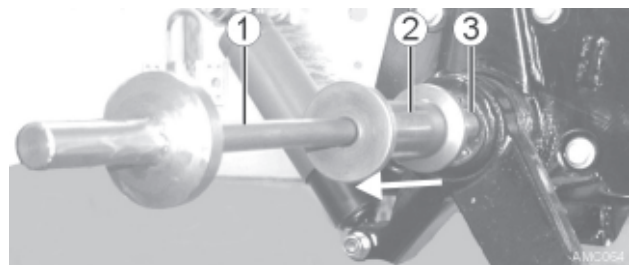

Fig. 19
10. Screw extraction tool (Fig 19 -1) into the torsion bar (Fig 19 - 3).
11. Knock impact bushing (Fig 19 -2) against the extraction tool stop in the direction of the arrow, until the torsion bar can be removed.